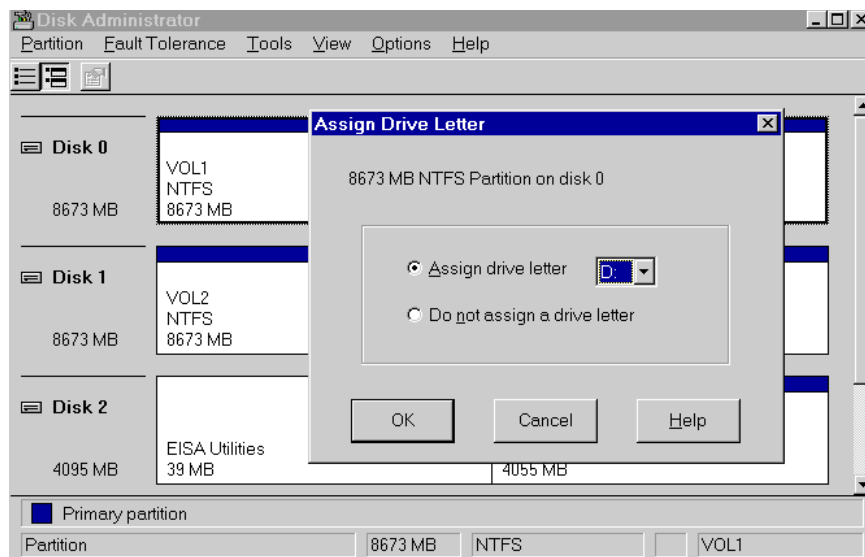

Figure 65: Driver Letter Availability
3. Select *Tools > Assign Drive Letter*. The Assign Drive Letter window (Figure 65) appears displaying the next available drive letter.